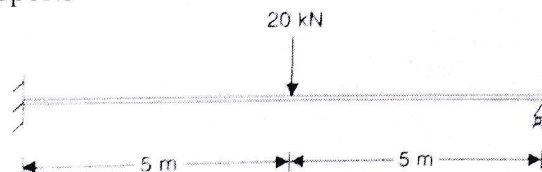

Figure 3
4. A beam of length 10 m, fixed at one end supported by a roller at the other end carries a 20 kN concentrated load at the centre of the span. By taking the modulus of elasticity of material as 200 GPa and moment of inertia as $24 \times 10^{-6}\text{ m}^4$ (figure 3), determine: